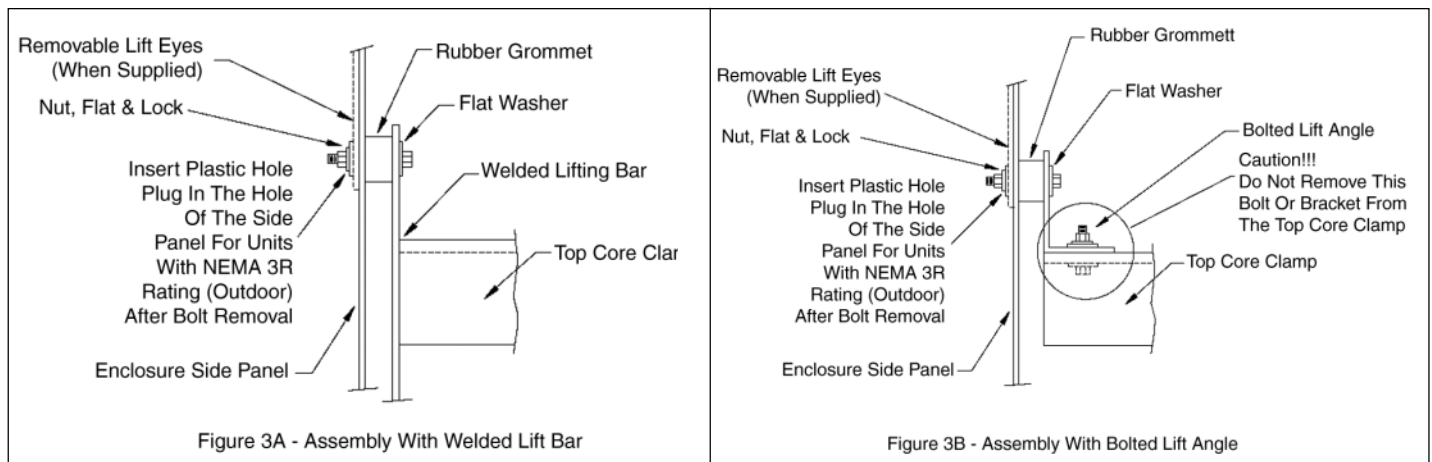

Figure 3 - Shipping Hardware Removal
surface and tighten connection using two wrenches as described above. Refer to Figure 3, Page 8 for instructions for the installation of cable lugs.
3. Remove shipping hardware at installation (See Figure 3).